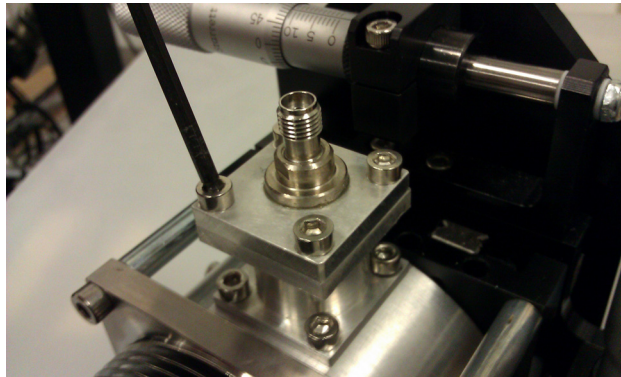

FIGURE 5-17 Remove the top set of four M3 screws
3. Remove the top set of four M3 screws holding the cable feedthrough to the feedthrough tower (FIGURE 5-17).